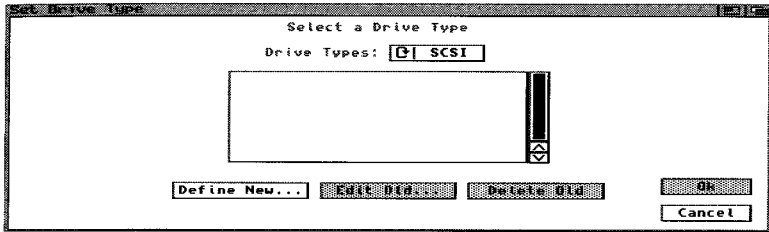

Figure 2. Set Drive Type Window
1. Click on the Change Drive Type gadget in the Hard Drive Preparation, Partitioning and Formatting window to access the Set Drive Type window, illustrated in Figure 2.